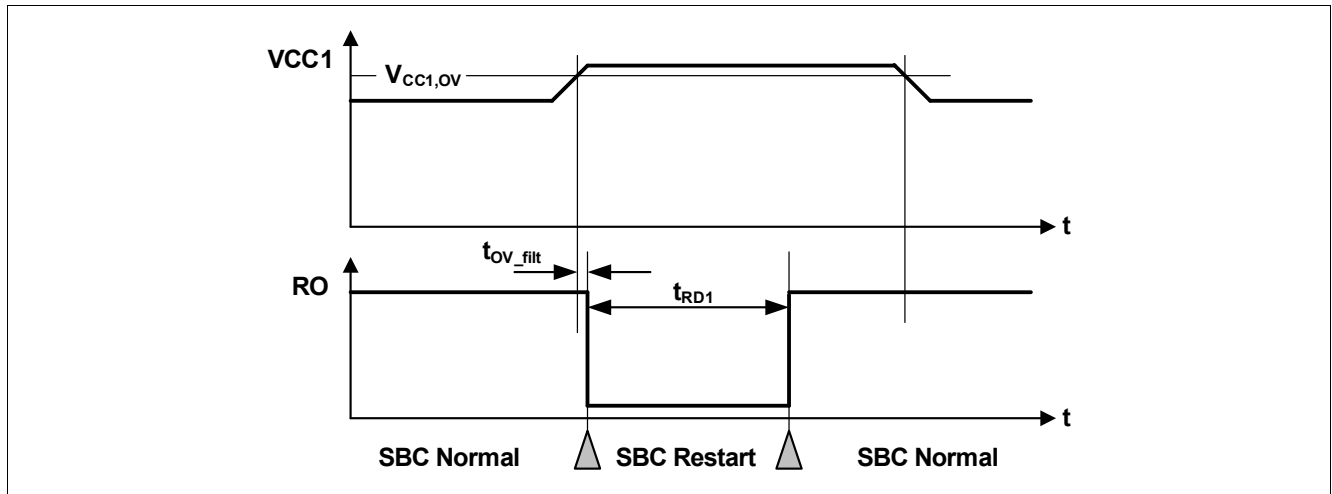

Figure 48 VCC1 Over Voltage Timing Diagram
- If the bit **VCC1_OV_RST** is set and **CFGFP** = '1', then SBC Restart Mode is entered. The FOx outputs are activated. After the reset delay time (t_{RD1}), the SBC Restart Mode is left and SBC Normal Mode is resumed even if the VCC1 over voltage event is still present (see also Figure 48). The **VCC1_OV_RST** bit is cleared automatically;